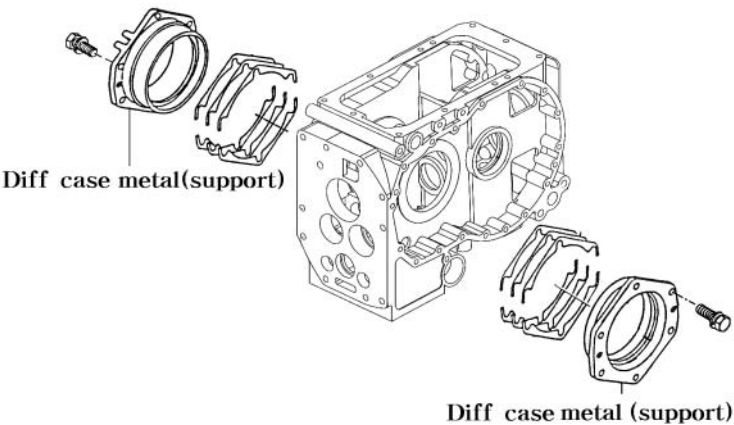

Fig.5-65
h. Backlash adjustment between the drive pinion and the ring pair (Fig 5-65)